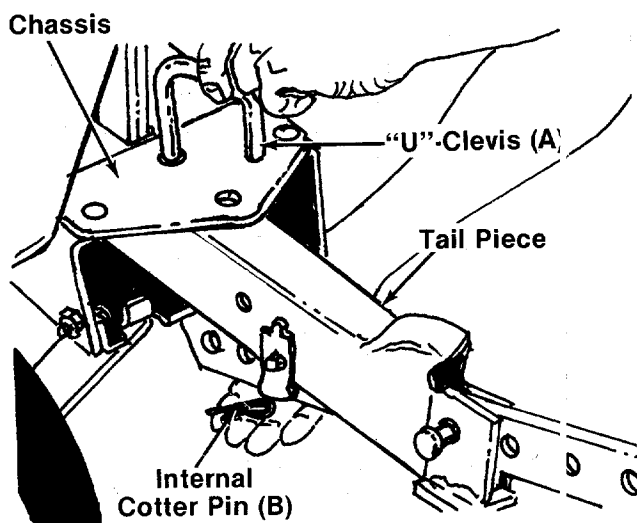

FIGURE 3.
Slide the tailpiece into the chassie. Secure with "U"-Clevis (A) and internal cotter pin (B). See figure 3.